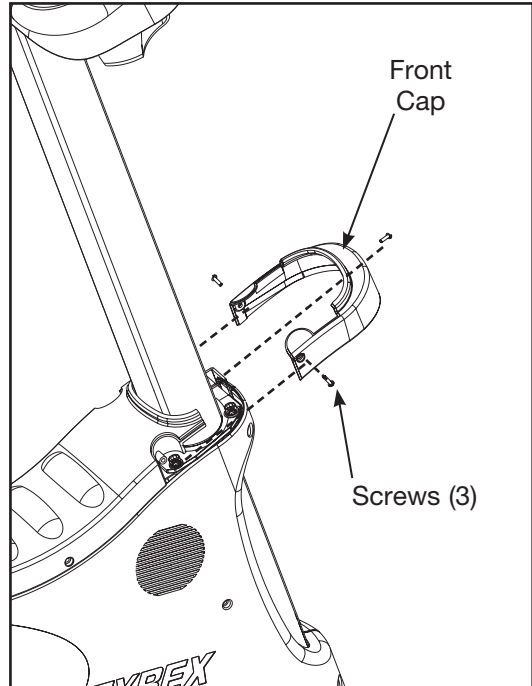

Figure 4
- A.** Using a Phillips head screwdriver, remove the three screws securing the front cap in place. See Figure 4.